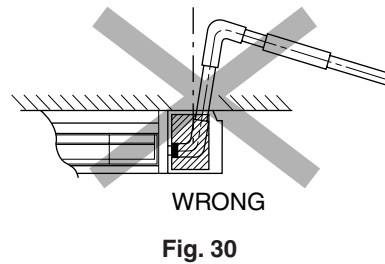

Fig. 30
- Install the drain raising piping at a right angle to the indoor unit. (Refer to Fig. 30)